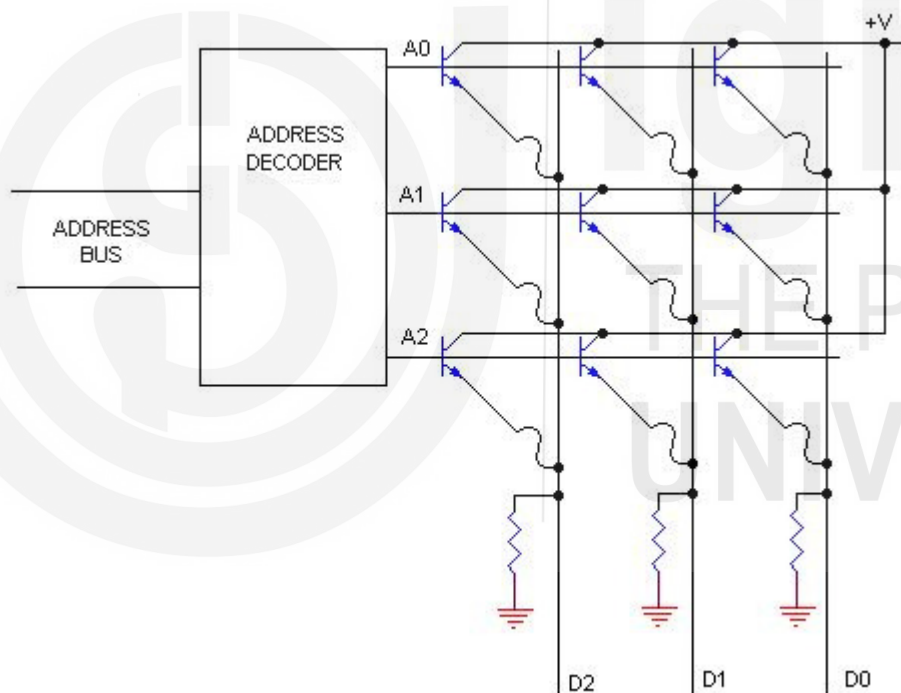

Figure 9.4 : PROM
- **RSMMC:** It stands for Reduced Size Multi Media Card. It is almost half of the MMC in size. These are also known as high voltage RSMMC cards because they can be operated at a voltage range of approximately 3.3 volt. Figure 9.4 depicts RSMMC.
It stands for Programmable Read Only Memory. It can be modified only once. Contents can be written on it only one time using PROM program and then it cannot be modified or erasable. There are small fuses in this ROM which are burnt open during programming. Figure 9.4 depicts PROM